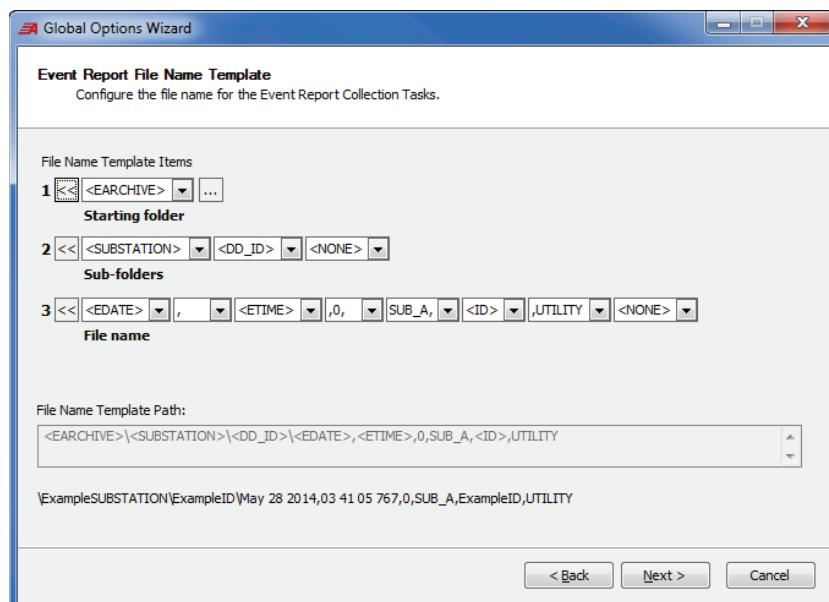

Figure 26 Event Report File Name
Step 8. Select **Next** to open the **Event Report File Name Template** window, as shown in *Figure 26*.
Step 9. Set the **Starting folder** field to <EARCHIVE> and the **Sub-folders** fields to <SUBSTATION> and <DD_ID>, as shown in *Figure 26*.
Step 10. Set the **File name** field parameters as shown in *Figure 26*; these settings include the required file name contents of *Step 8 on page 28*.